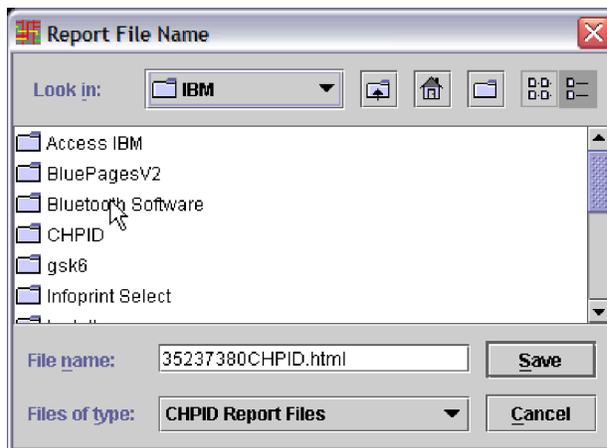

Figure 49. Report File Name Window
3. Figure 49 shows the Report File Name window, which allows you to specify a file name for the report.